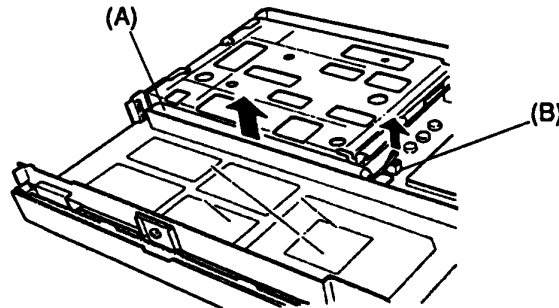

Figure 4-19 Disconnecting the sub battery
To remove the T4400SXC's battery pack case follow these steps and refer to figures 4-19 and 4-20:
3. Disconnect the sub battery (A) from PJ2 (B) on the system board as shown in figure 4-19.